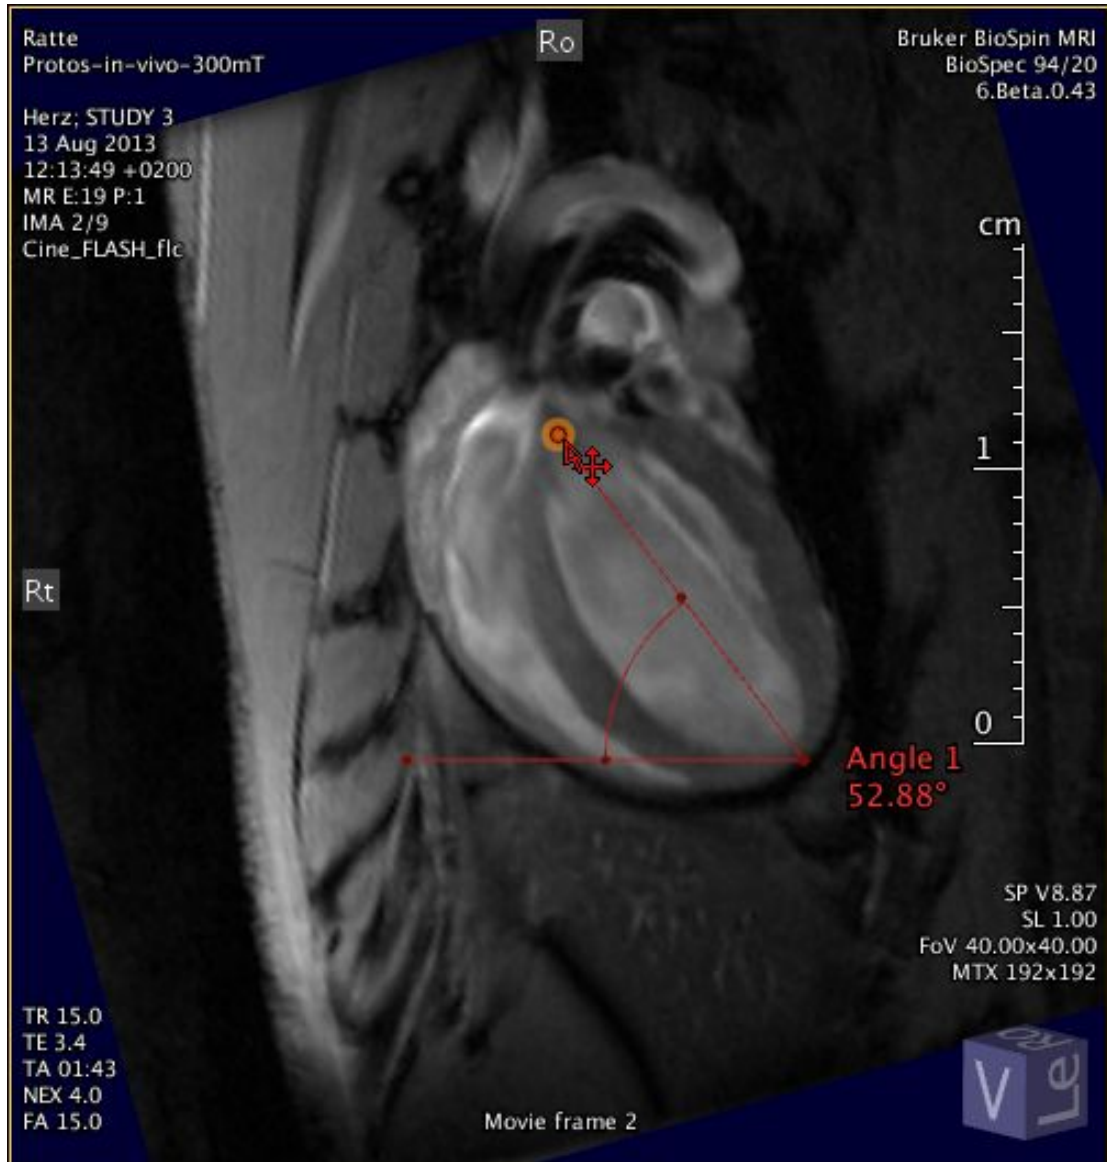

Figure 1.140: Angle Measurement
2. To change the angle, point the mouse to a marker at any end, and drag it to the desired position with the mouse (see Figure 1.140 [p. 161]).